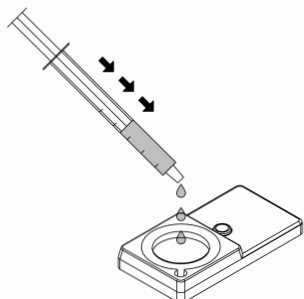

Figure 3. Cover the membrane surface with 750  $\mu$ L sperm wash solution.
6. Prepare a fresh syringe with 750  $\mu$ L of sperm wash solution. Cover the entire upper collection chamber. Ensure an uninterrupted flow of media over the membrane and the outlet port (Figure 3).